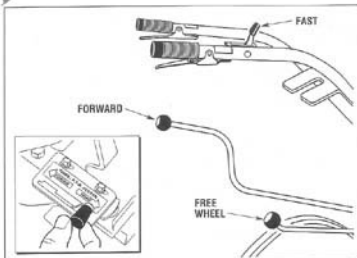

Figure 4-5: Put Wheels/Tines/PTO Drive Lever in FORWARD and engine Throttle Control Lever in FAST.
2. After starting the engine, move the Wheels/Tines/PTO Lever to FORWARD to transfer power to the Chipper/Shredder (see Figure 4-5).
1. To stop the PTO Chipper Shredder, move the throttle control lever to STOP (see Figure 4-5).